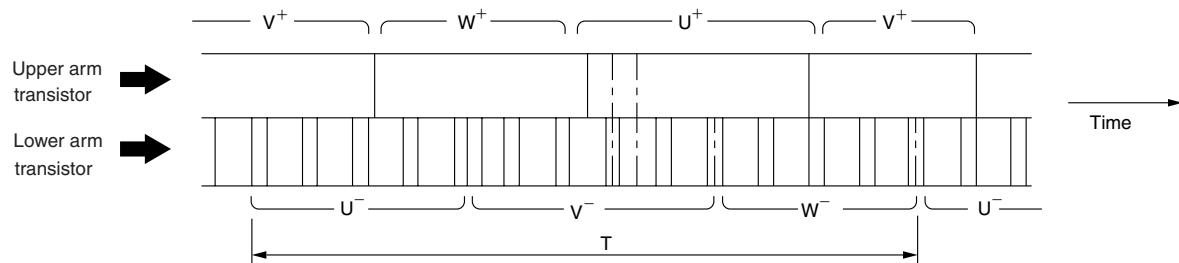

Fig. 13-2
- In the same way as compressor control, speed of outdoor DC fan motor is controlled by switching supplied current according to rotation position of fan motor magnet pole rotor: The switching order is shown in Fig. 13-2.
- Fig. 13-2 shows switching period of time T , and relationship with fan rotation speed is shown by the following formula: